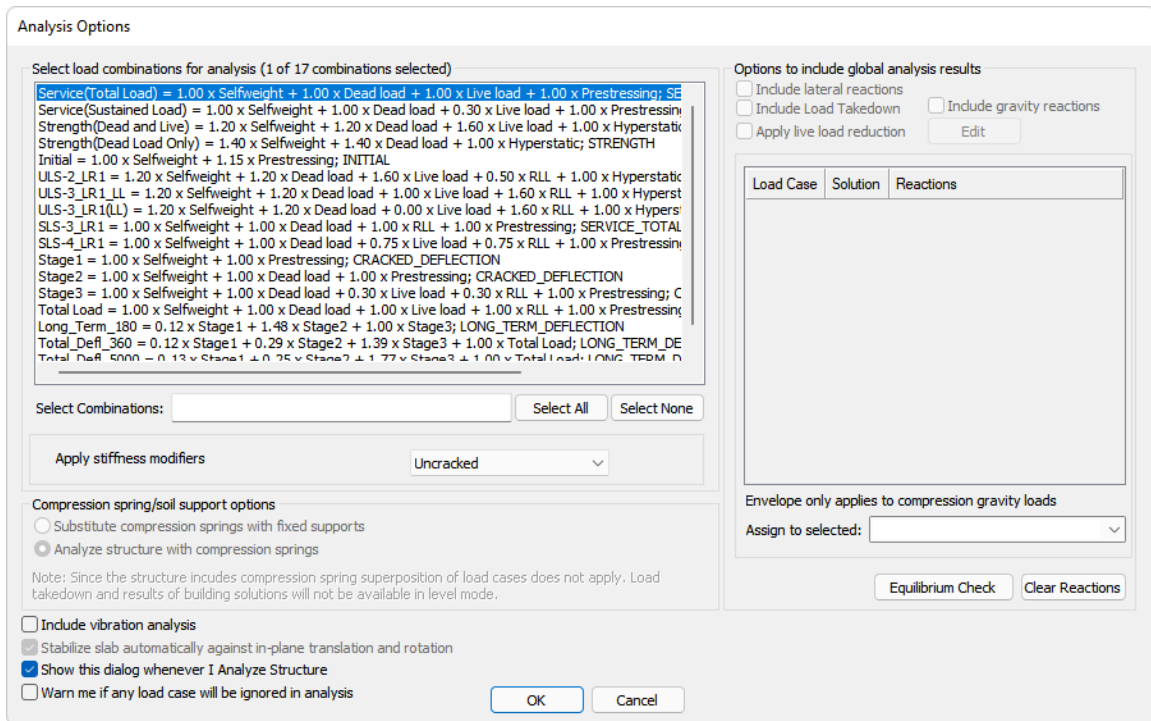

FIGURE 7-11
- Other options in this dialog window will be left with their default values. Before pressing **OK** to analyze, make sure your screen matches the screen shown in **FIGURE 7-11**. If everything matches, click **OK** to analyze the structure.